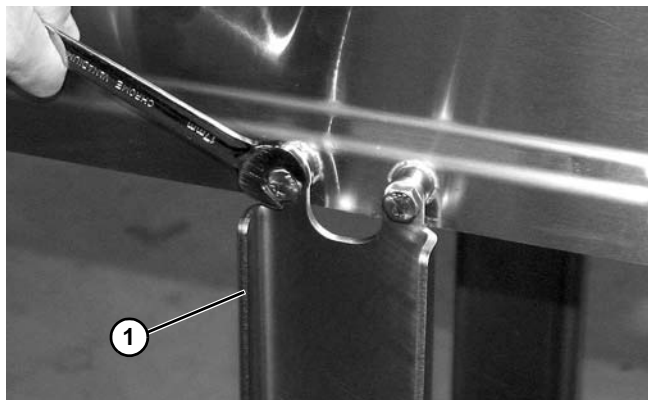

Figure 7
2. Attach the stands (Figure 7, item 1) to the frame. Tighten screws to 28-32 Nm (20-24 ft-lbs).